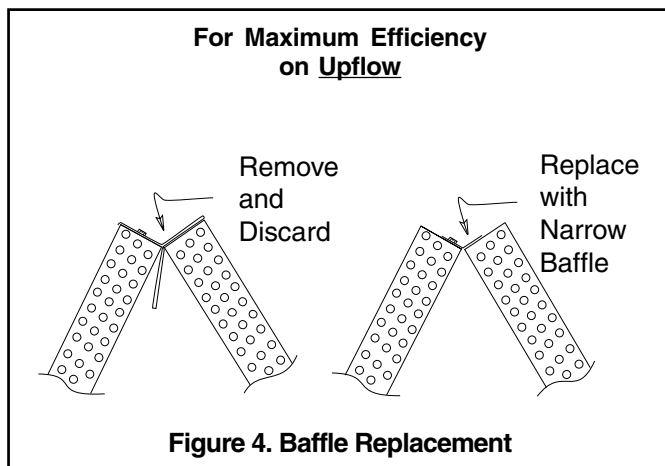

Figure 4. Baffle Replacement
2. Replace the factory installed baffle with supplied narrow baffle. See Figure 4.